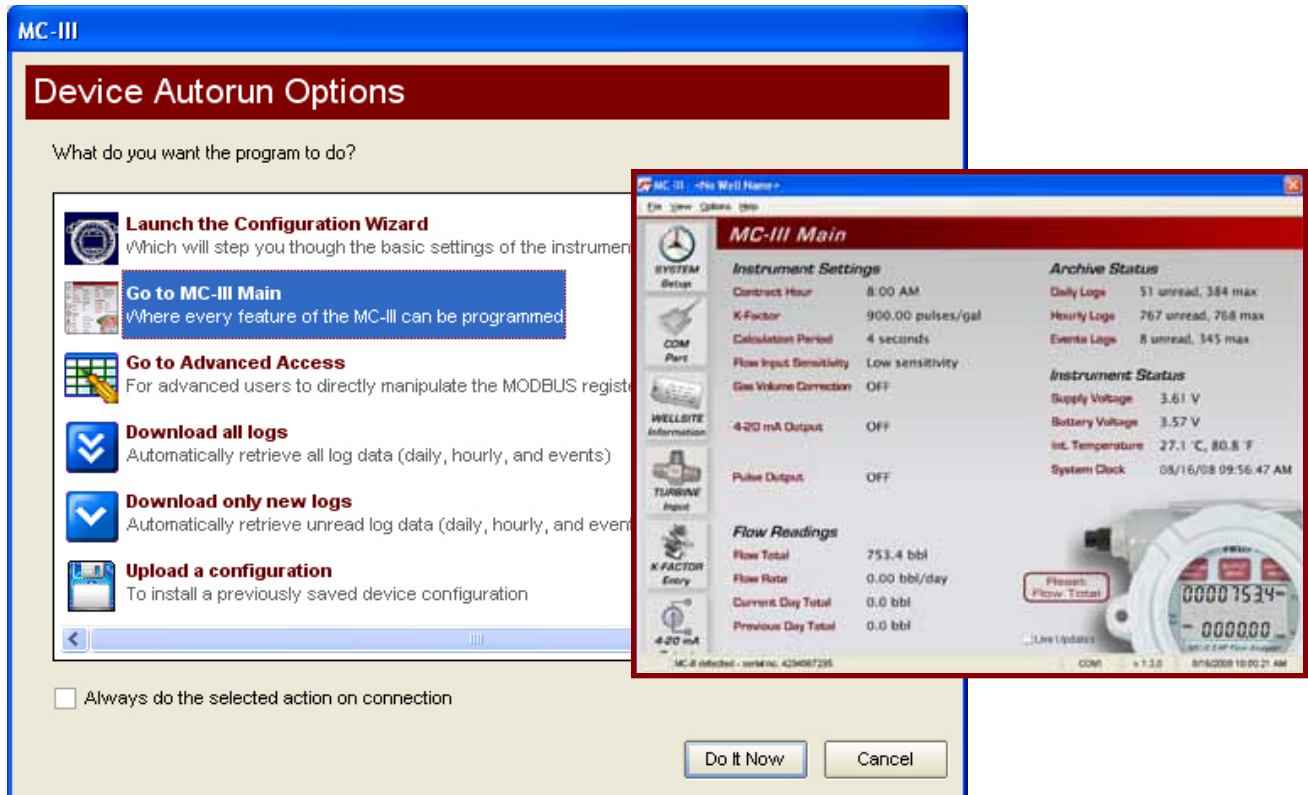

Figure 4.12—MC-III Main configuration option for complete access to configurable parameters
- The MC-III Main screen (*Figure 4.12, page 45*) gives users complete access to all configuration parameters.